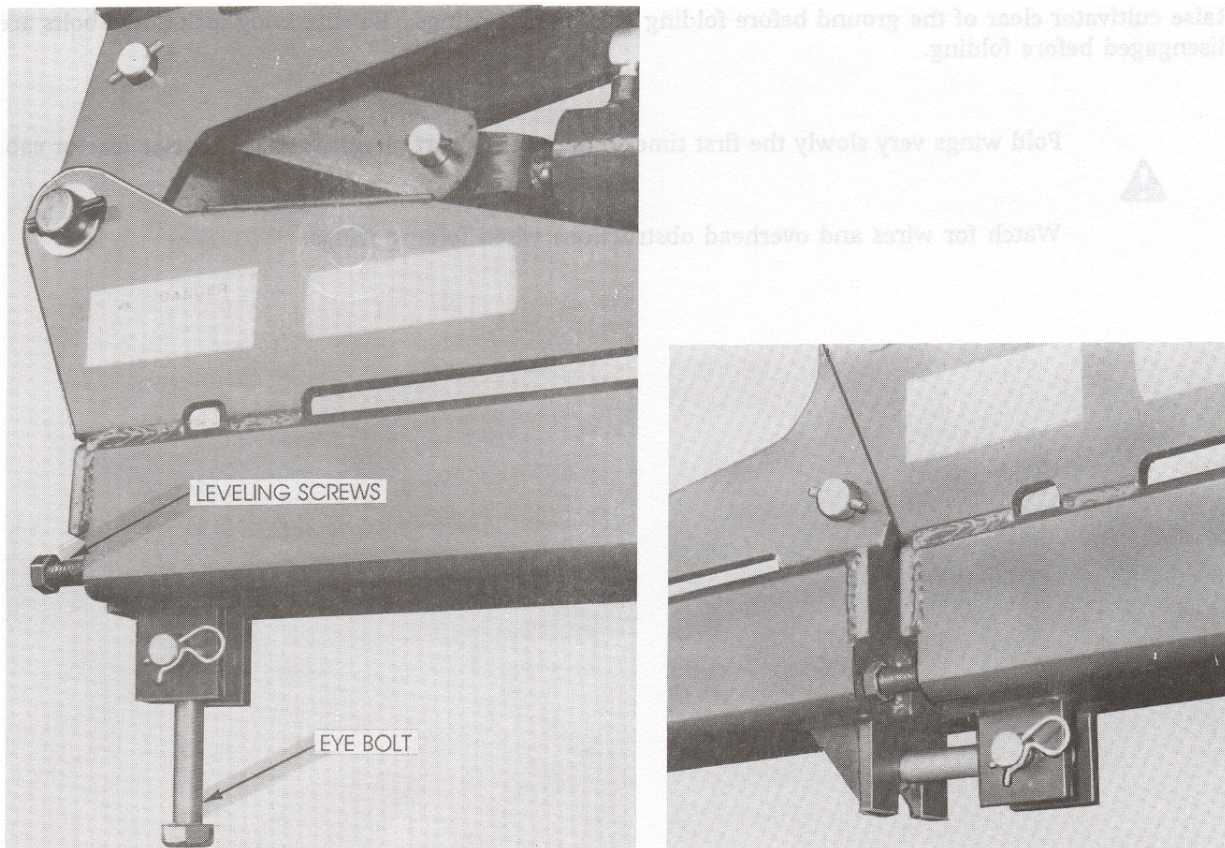

FIGURE 3
3. If wing hold-downs are to be used, please refer to Figure 3 on page 8.